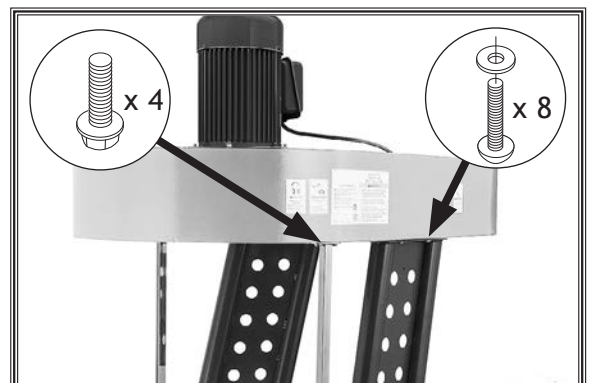

Figure 14. Impeller housing attached to support legs and lock handle guides.
- Secure impeller housing to support legs with (8) $\frac{5}{16}$ "-18 x $\frac{3}{4}$ " button head cap screws and (8) $\frac{5}{16}$ " fender washers (see **Figure 14**).
- Secure impeller housing to lock handle guides with (4) $\frac{5}{16}$ "-18 x $\frac{1}{2}$ " flange bolts (see **Figure 14**).